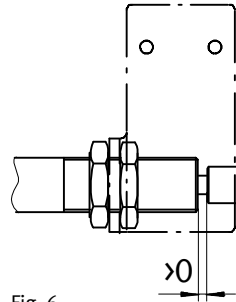

Fig. 6
- Check whether the shock absorber maintains the two dimensions as shown in Figs. 6 and 7, even during operation.